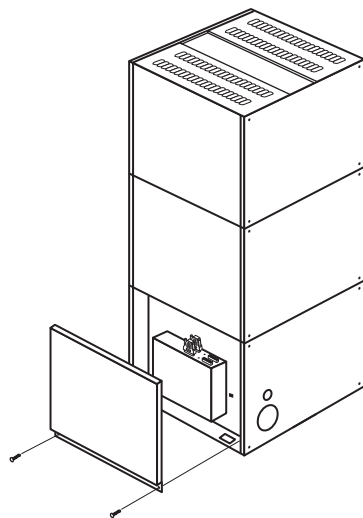

Figure 10: Removing the access panel
1. Using a flat-slotted screwdriver, remove the two screws securing the access panel to the lower right of the cabinet (see Figure 10).